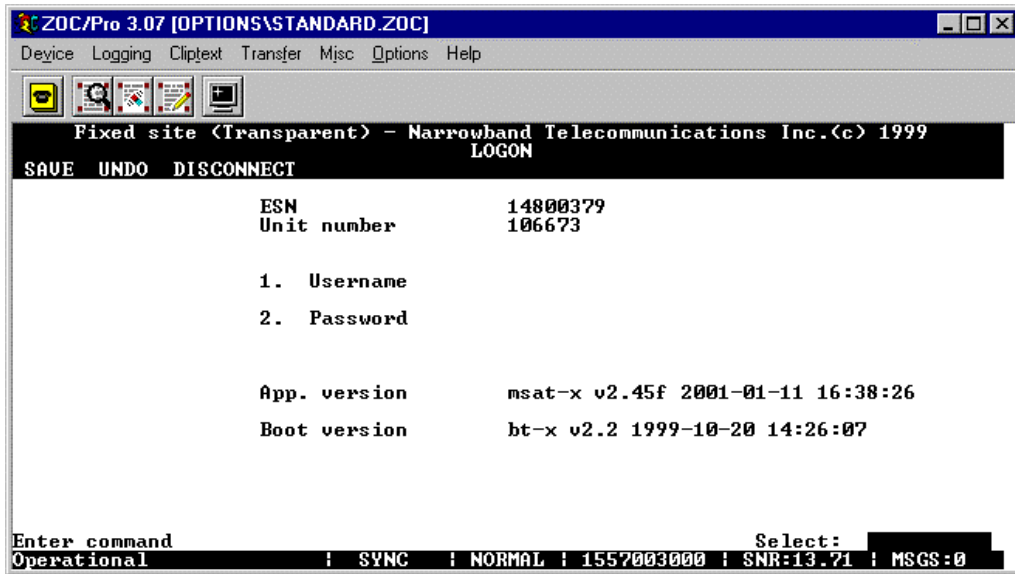

Figure 4. LOGON window
3. Press the **Enter** key twice, and the following *Logon* (see figure 4) window should appear.